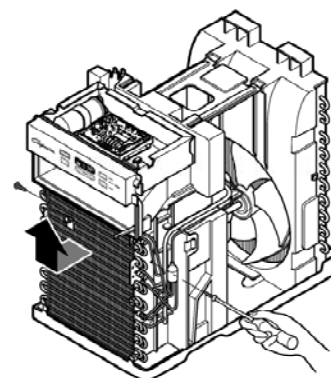

Figure 16
8. Re-install the components by referring to notes. (See Figure 16)